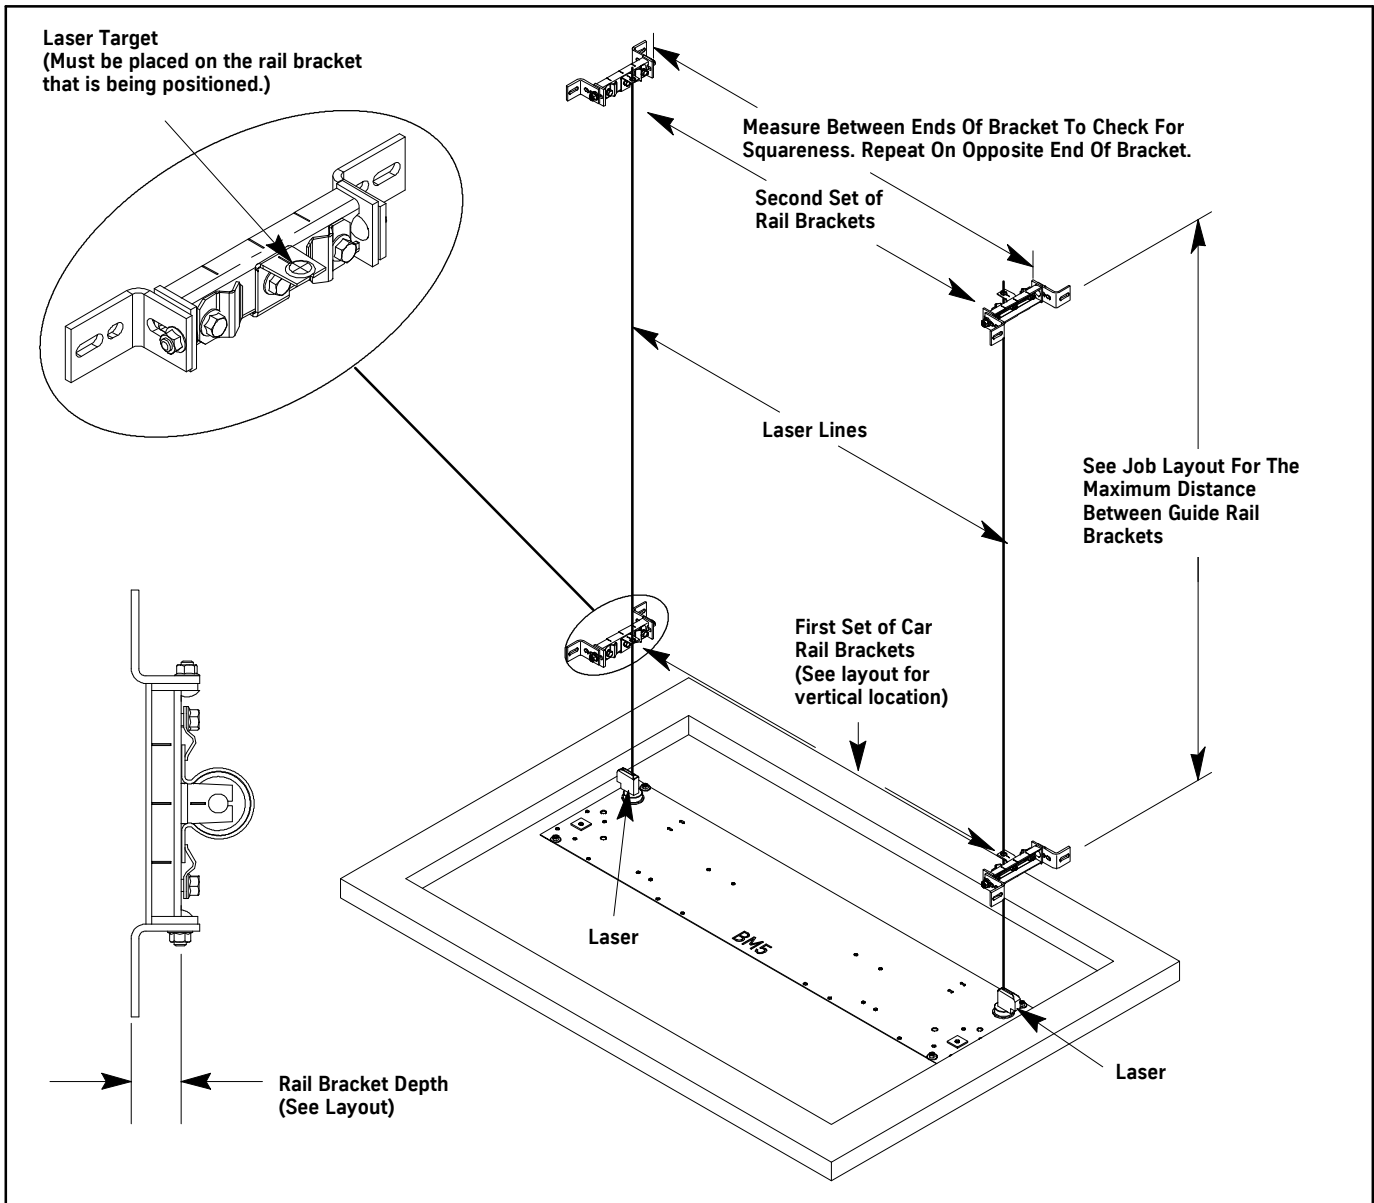

Figure 5 - Car Rail Bracket Installation
1. Set the depth of all rail brackets per the dimensions given on the layout. See Figure 5.
2. Install a bottom rail bracket as follows. See Figure 5:
4. Measure the distance between the two rail brackets at both ends of the brackets to ensure that they are square (faced) to one another. See Figure 5.
6. Install a second rail bracket as follows. See Figure 5:
8. Measure the distance between the two rail brackets at both ends of the brackets to ensure that they are square (faced) to one another. See Figure 5.